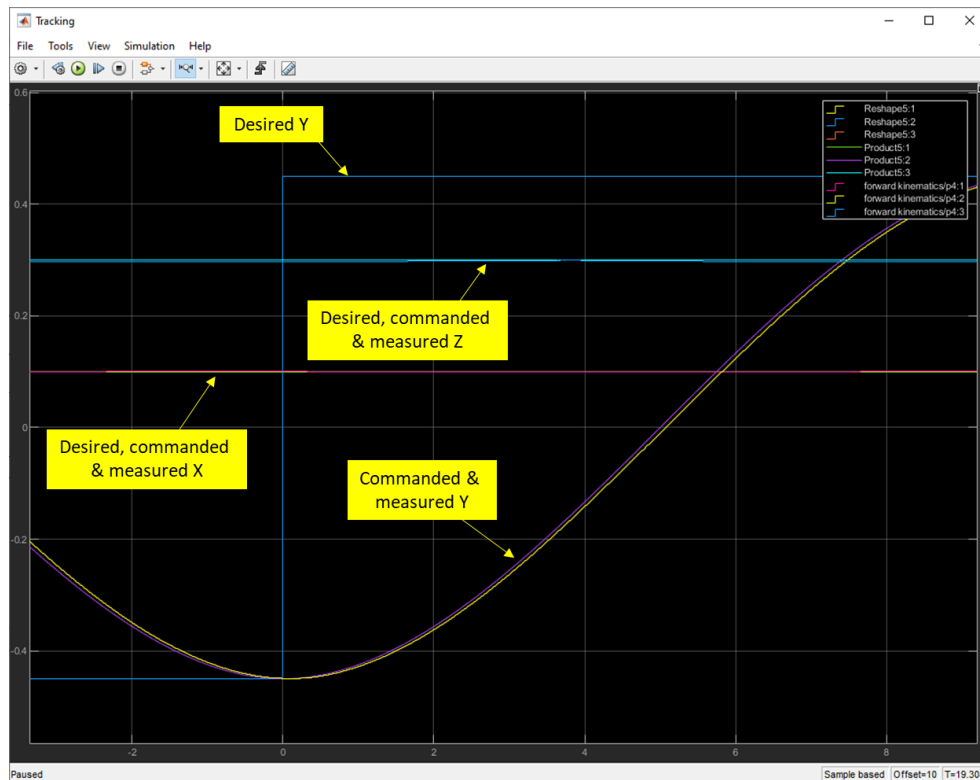

Figure 2 - Sample results showing the manipulator following a spline
- Open the scope labeled Tracking. Sample results are shown in Figure 2. The scope displays the desired, commanded, and measured X, Y, Z values all in meters. The results indicate that when a change in the Y axis setpoint occurs, the end-effector initially accelerates along the Y axis as it starts to follow the spline, then travels at a constant velocity, before decelerating as it reaches the setpoint. Was the manipulator successfully able to traverse the entire trajectory?